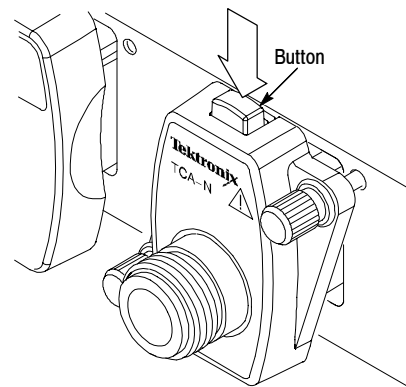

Figure 2: Removing the adapter from the host instrument
4. Press the button on top of the adapter (see Figure 2) to release the lock and remove the adapter from the host instrument.